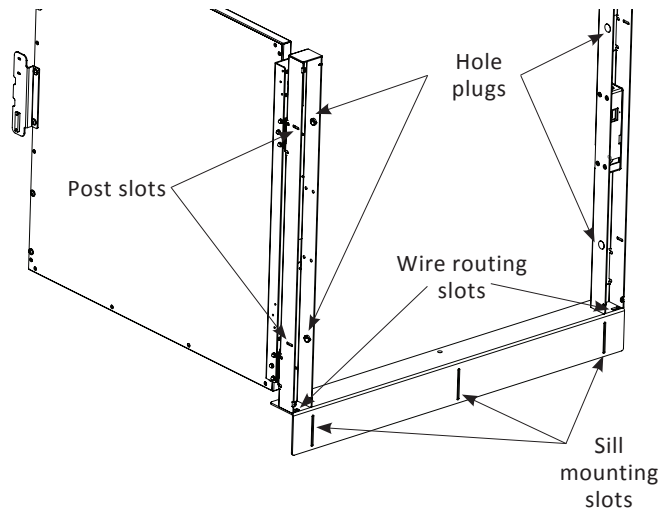

Figure 4-17
- Create the necessary space below the gate sill so the wire can be routed into the gate post through the wire routing slot. **See Figure 4-17.**
Connect wiring per device instructions and Figures 4-17 on page 21. For details, please refer to the supplemental guide "Highlander II Wiring Schematics".